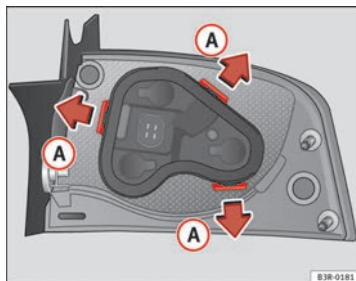

Fig. 208 Retaining tabs on reverse side of tail light
- Release the retaining tabs ⇒ fig. 208 **A**.